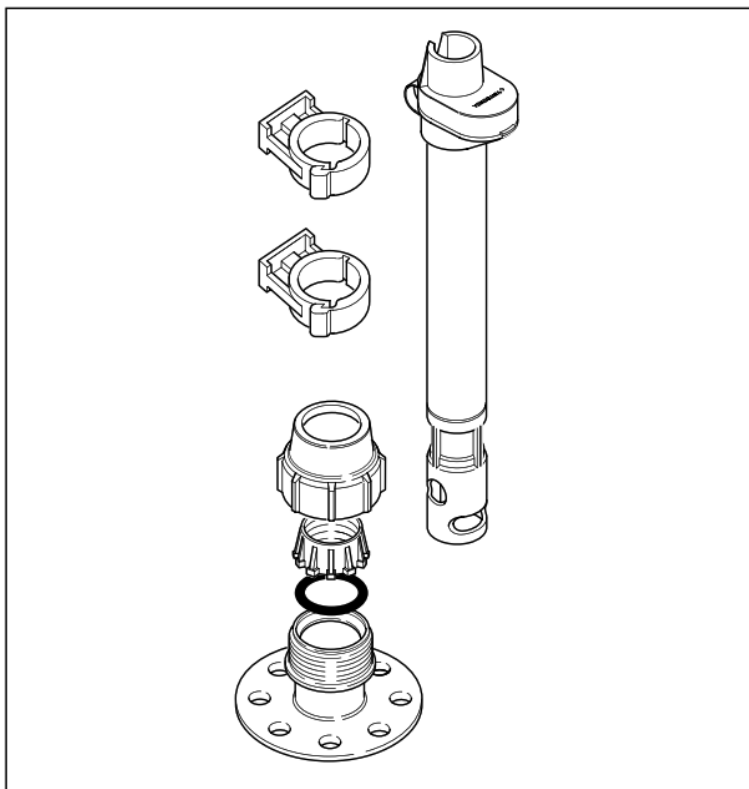

Figure 8. Mounting of the immersion fitting
9. Optional wall mounting clamps (fig.8) can be used to secure the immersion tube in any desired vertical position. It is also possible to use the optional flange for mounting.